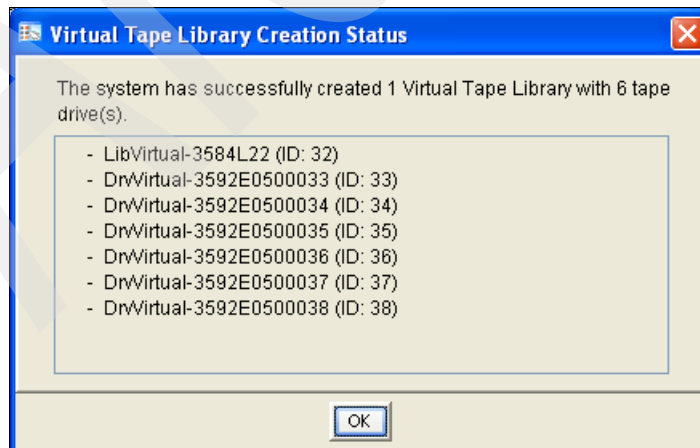

Figure 6-43 Cached virtual library creation: Completion status
10. You should be presented with a window displaying the status of the library creation as shown in Figure 6-43. Review the batch creation status and click **OK**.